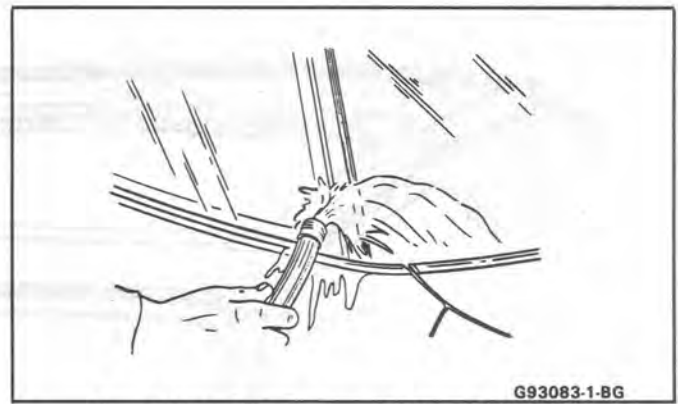

Fig. 7-Water Hose Test of Windshield Pillar
- Have a helper inside the car to detect the actual leak point (Figs. 7 and 8).